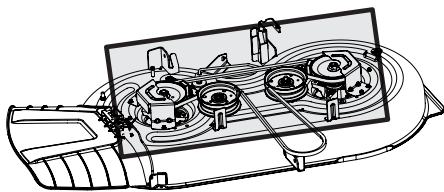

Figure 20
- Clean the top of the tractor deck, under the spindle covers, and belt area. See Figure 20.